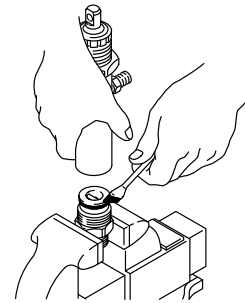

Fig. 34 02577
12. Grease the intake valve o-ring with non-silicon grease. Screw the pump cylinder into the intake valve. Torque to 70 ft-lb (95 N.m). See Fig. 34.